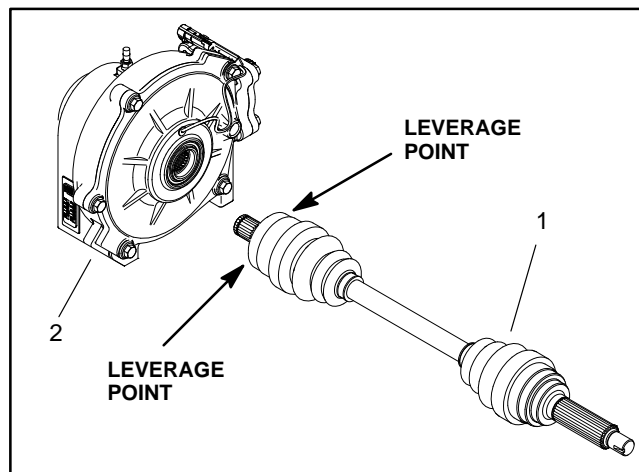

Figure 2
6. Use two small pry bars (180 degrees apart) to leverage the CV axle out of the differential. Use even pressure on both pry bars (Fig. 2).